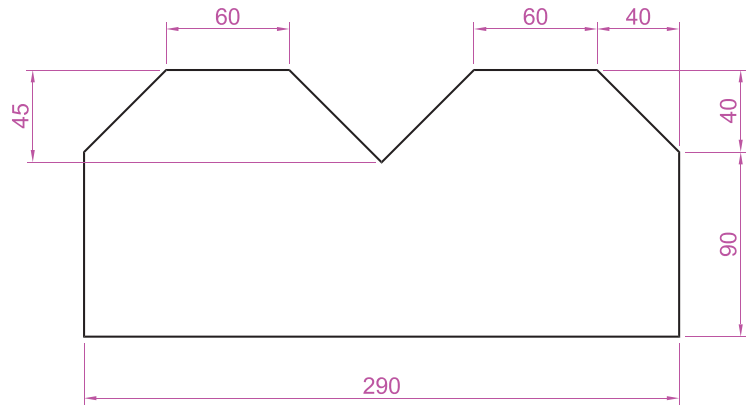

Fig. 6.9 Second example – outline for dimensions
1. Construct the outline Fig. 6.9 – a pline of width = 1.
The result is given in Fig. 6.9.